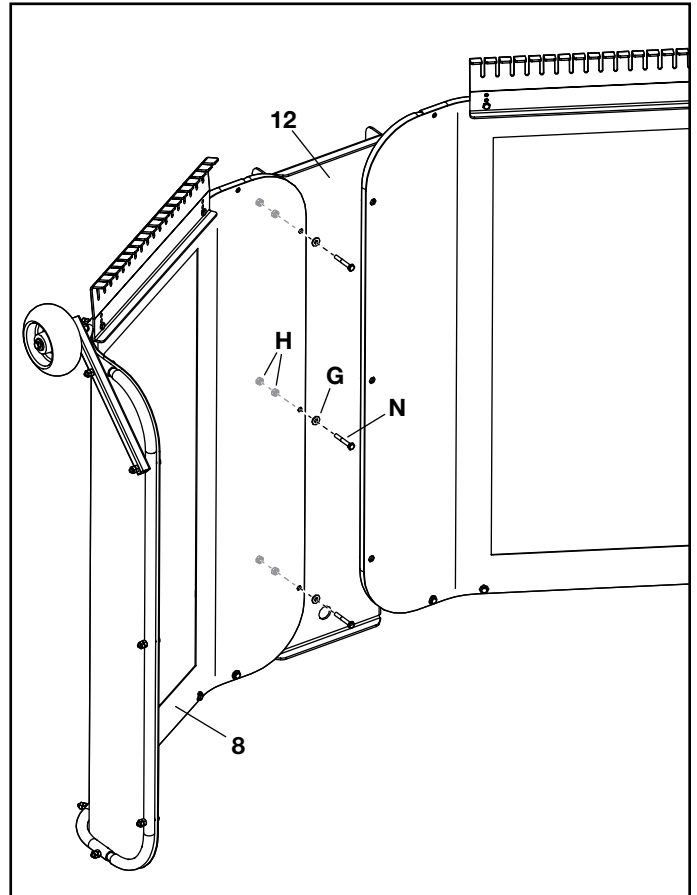

FIGURE 12
STEP 12: (SEE FIGURE 12)
- Stand the right pusher wall assembly (8) upside down as shown.
- Attach the right pusher wall assembly to the bulkhead (12) using three hex bolts (N), washers (G), and hex nuts (H) and tighten.
- Add a second hex nut (H) to each hex bolt and tighten.